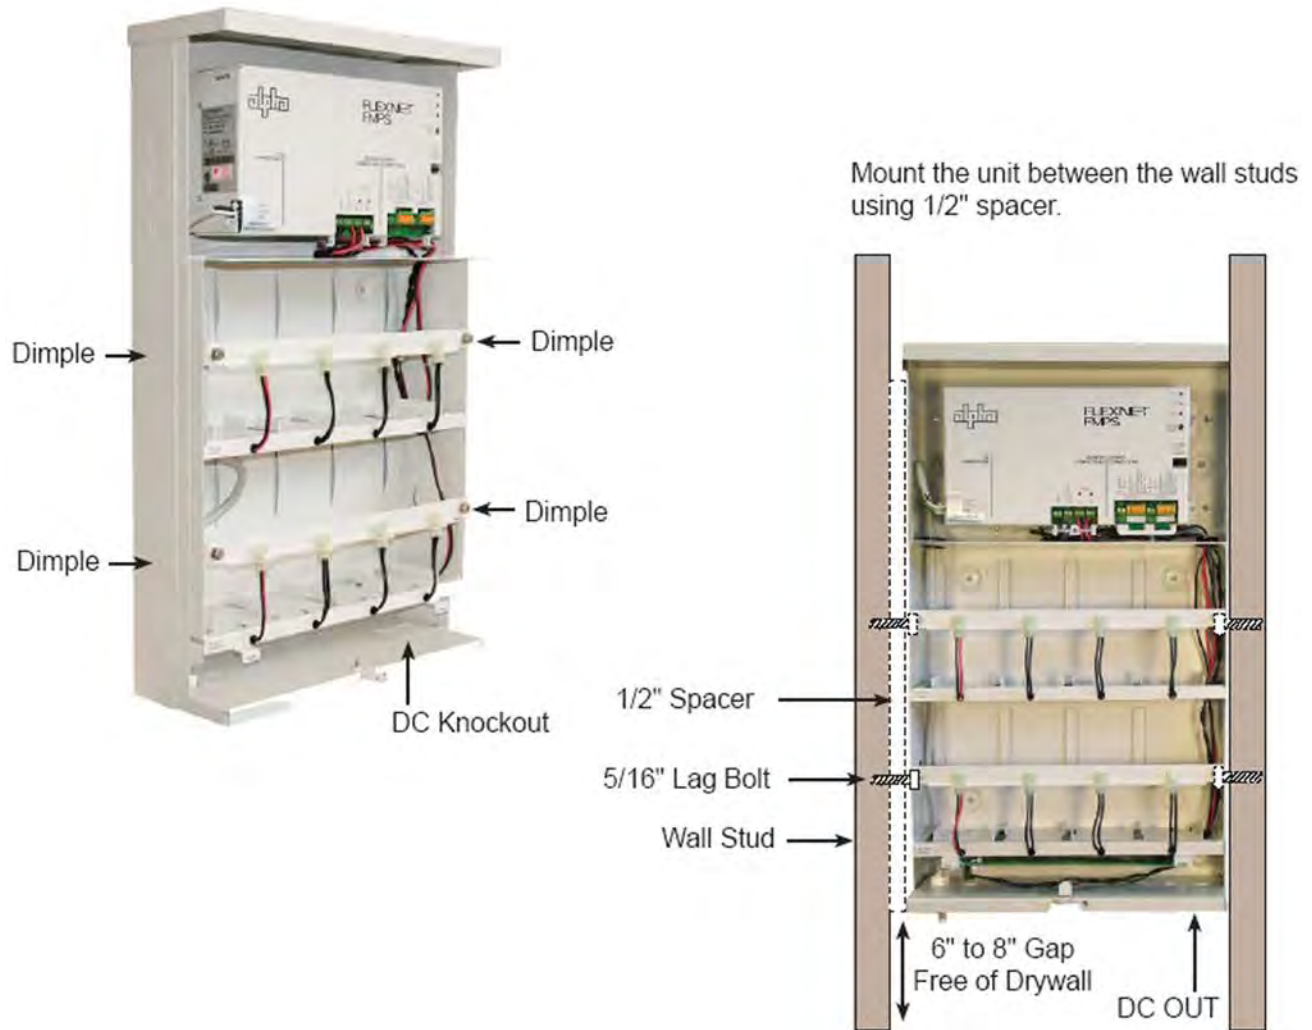

Figure 6—Stud-mounting the FMPS
3. Drill four 3/8" holes in the side of the enclosure using the pressed dimples in the side of the enclosure as a guide. See Figure 6. Clean any shavings from the enclosure.
4. Using a hammer and punch, knock out the DC wiring knockout on the bottom of the enclosure. See Figure 6.